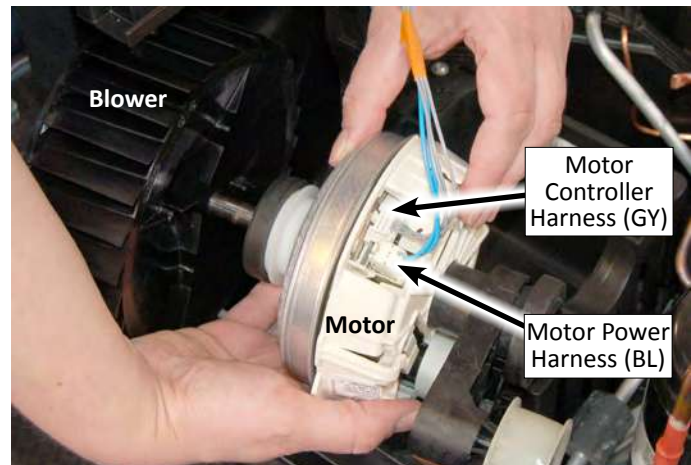

Figure 3
9. Lift up and rotate out the motor assembly and blower wheel. See Figure 3.